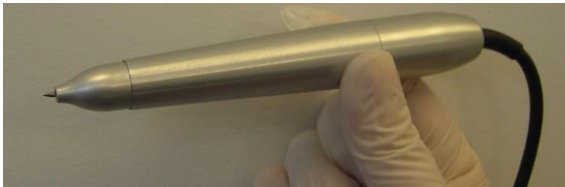

Figure 3-74. Incision Handpiece Assembled
8. Verify that the handpiece is properly assembled, as shown in Figure 3-74.